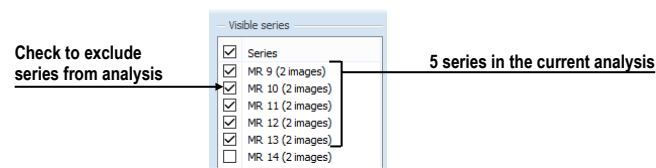

Figure 397 – Series in analysis section in the tool tab
1. In the **Quantitative analyses** tool tab, in **Visible series** list (see Figure 397), find the series which needs to be included or excluded.